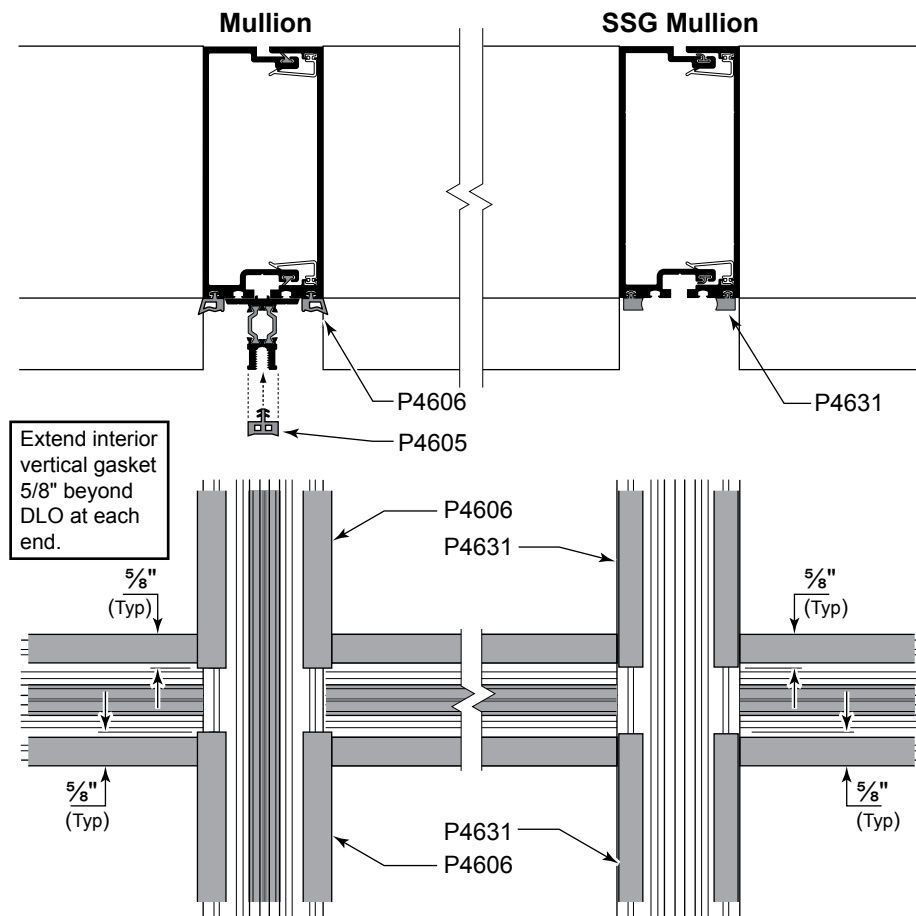

Fig. 34.1
- E. For pre-sealing captured mullion frames: Water dams can be pre-applied to each bay in the shop before transporting to the jobsite. Follow the same sealing procedures as with a captured system noted above. See **Fig. 34.1**.